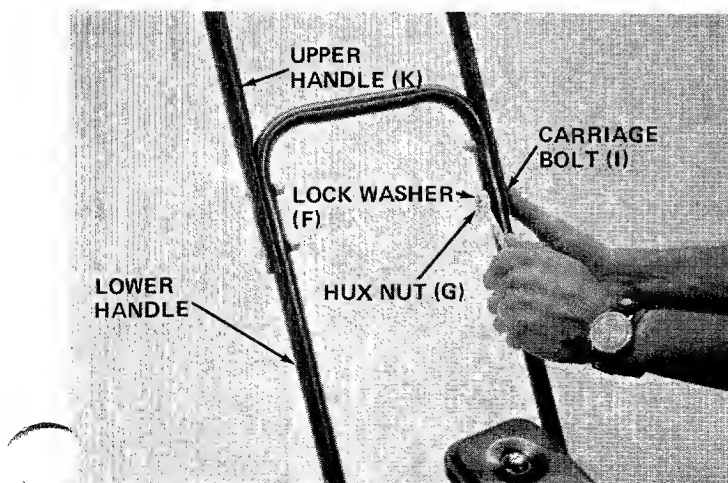

FIGURE 5.
6. Assemble the upper handle (K) to lower handle. Place the head of carriage bolts (I) to the outside of handle. Secure with lock washers (F) and hex nuts (G). See figure 5.